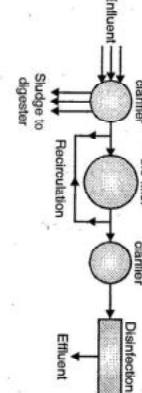

Fig. 2.15.1 : Stages in sewage treatment
- The *effluent* is also disposed off in many ways such as sewage farming, letting it into a natural drainage or sea. Stages in sewage treatments are shown in Fig. 2.15.1.